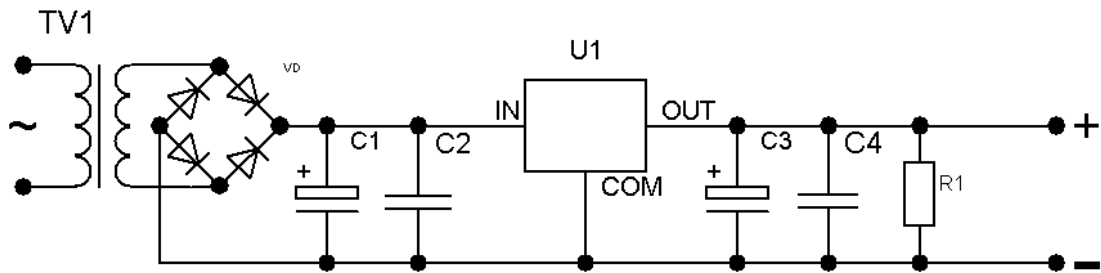
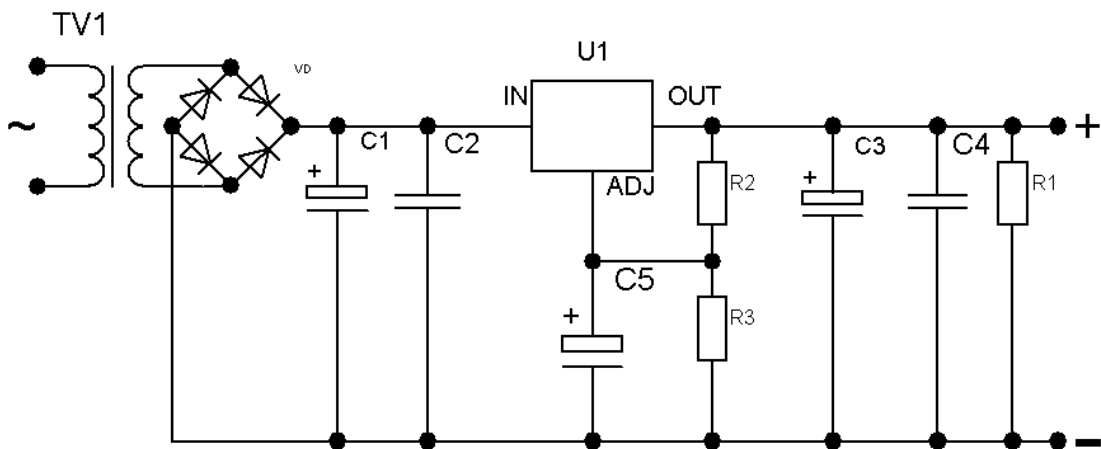

Fig.5
Fig.6
The adjustment terminal of the LT1083CP is bypassed by the high-grade capacitors Elna Silmic II 10 μ F 35 V (C5 in the fig.6). It is made in all modules in which the LT1083CP is used.
6. U1 – the regulator: the regulator providing fixed value of stabilized voltage in output of the unit without the additional resistors is represented in the fig.5 and with the additional resistors R2 and R3 is represented in the fig.6. The benefit of the circuit design in the fig.6 is in the additional capacitor C5 providing additional ripple rejection. R2, R3, C5 are chosen according to the regulator's datasheets.